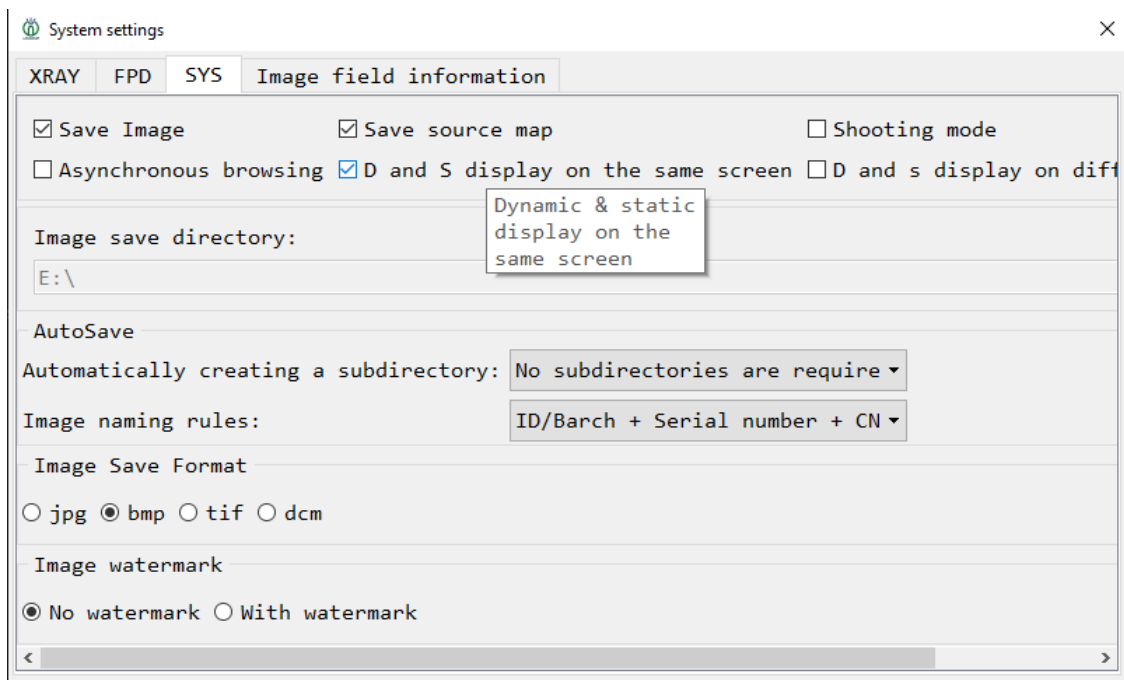

Fig. V-82 Detector Setting
The detector configuration provides the functions of managing and setting of X-Ray tube and HV generator. Enter the Setting-Detector interface via the "**Settings (S)**" → "**System Settings...**" → "**Detector**" in the menu bar (Fig. V-82).